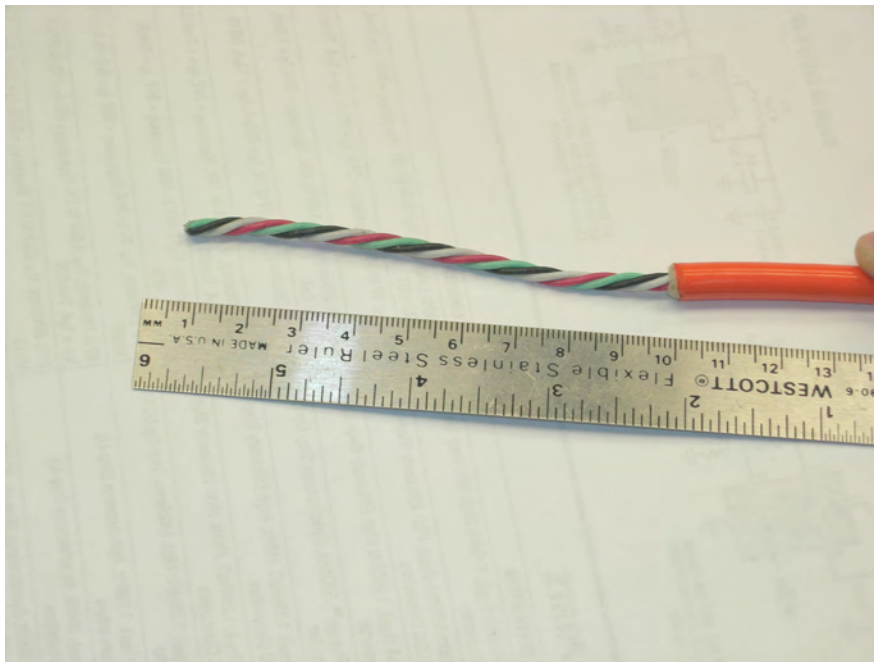

Figure 1: Cable jacket removed.
2. Strip 4 to 5 inches of the cable jacket and the Vectran strength braid to expose the 4 conductors. See Figure 1. The conductors are wrapped with a clear tape. Remove this. Unravel about 1 to 2 inches of the conductors. Trim away the nylon filaments which are used as the cable fillers.